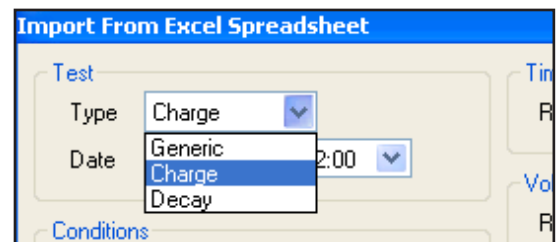

Figure 59: Test Type Window
4. Select the Test Type from the drop down "Type" window (Figure 59). Once imported, the PGA-710 Session Wizard will respond to the type designation.